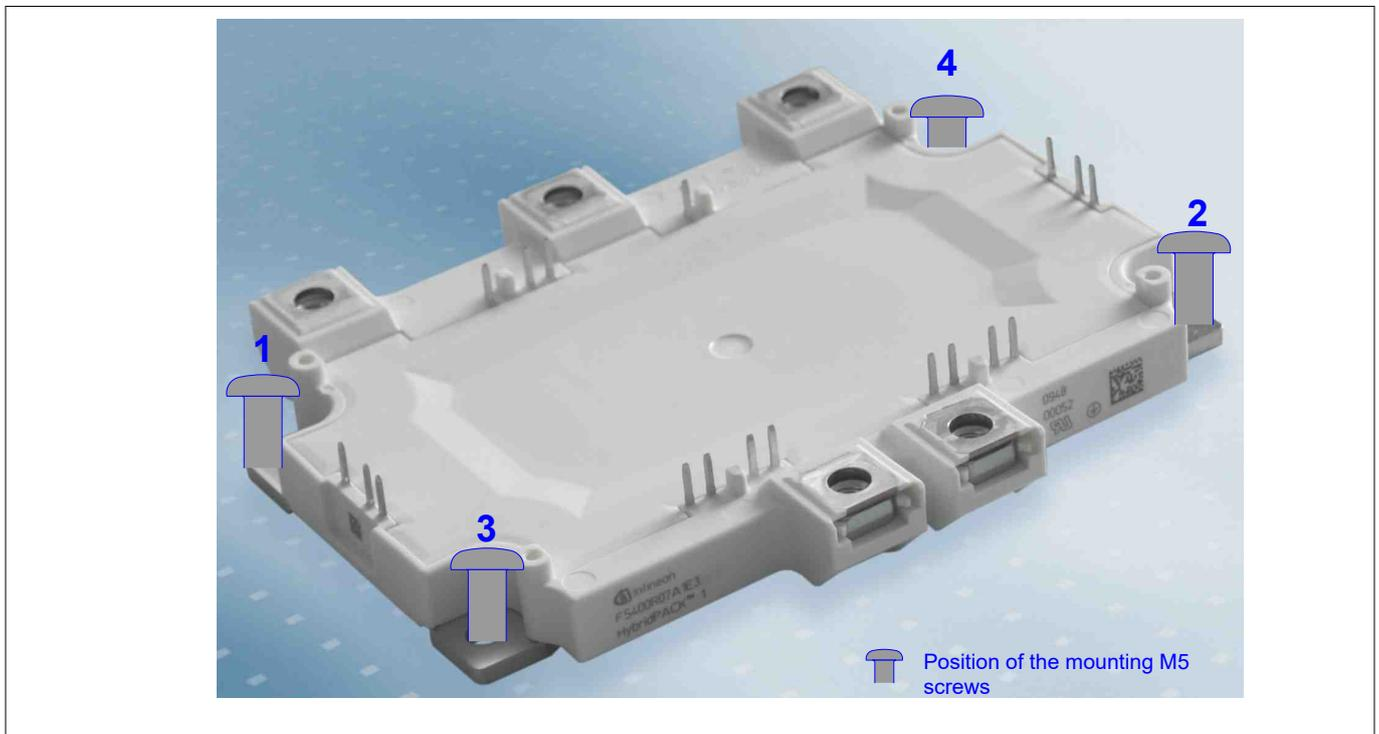

Figure 8 Tightening sequence to mount the module
2. Fix the screws with 0.5 Nm (hand tight crosswise) in the sequence shown in Figure 8